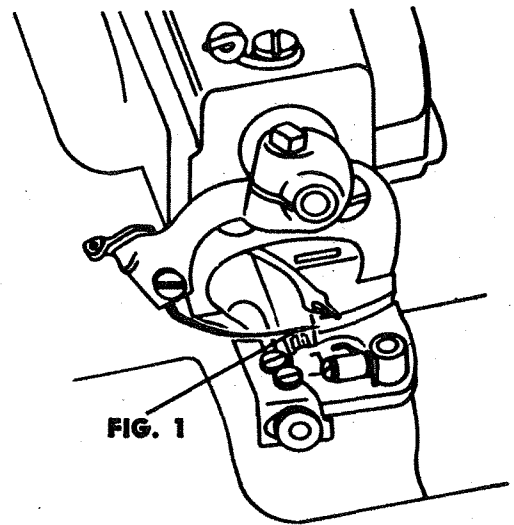
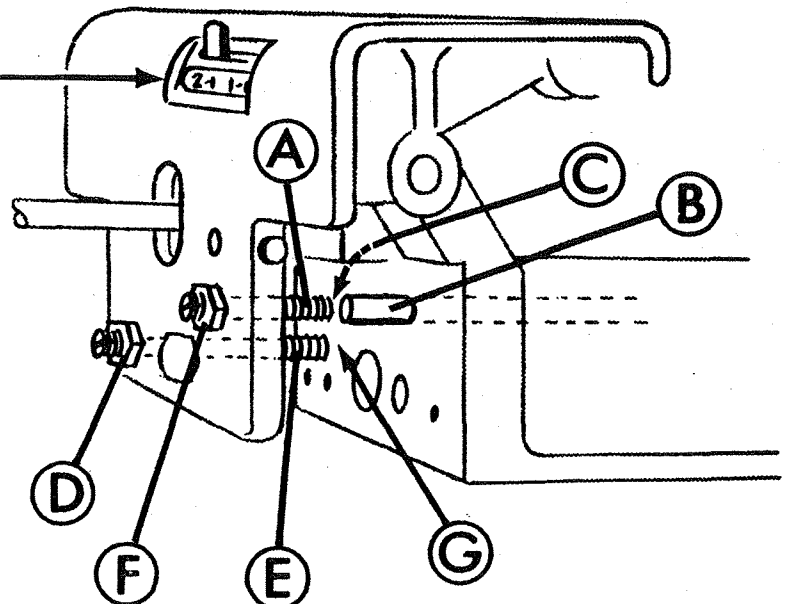

FIG. 1
FIG. 5
2. Turn hand wheel **CLOCKWISE** until eye of needle is at slot in presser foot shoe (Fig. 1).
ON THE SKIP STROKE, stop when the eye of the needle is at the rib (Fig. 1). At this point, the gap between the Compensating Skip Stitch Screw (Fig. 5, A) and the Push Rod (B) should be .018 (C). (In the absence of a gauge, .018 is about 5 times the thickness of average letterhead paper.) This adjustment is made by loosening Lock Nut (F), adjusting screw (A) so gap at (C) is .018. Keep screw in place with screwdriver and secure Lock Nut.
3. Hold Needle at point (D) (Fig. 5) with left thumb and index finger, loosen screw (A) a quarter turn, then push Needle all the way up the Needle Lever (**DO NOT FORCE**) and secure screw (A) firmly.